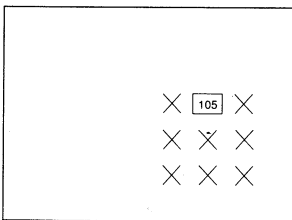

fig. 14
- Adjust value on the picture to 105 (Fig. 14).